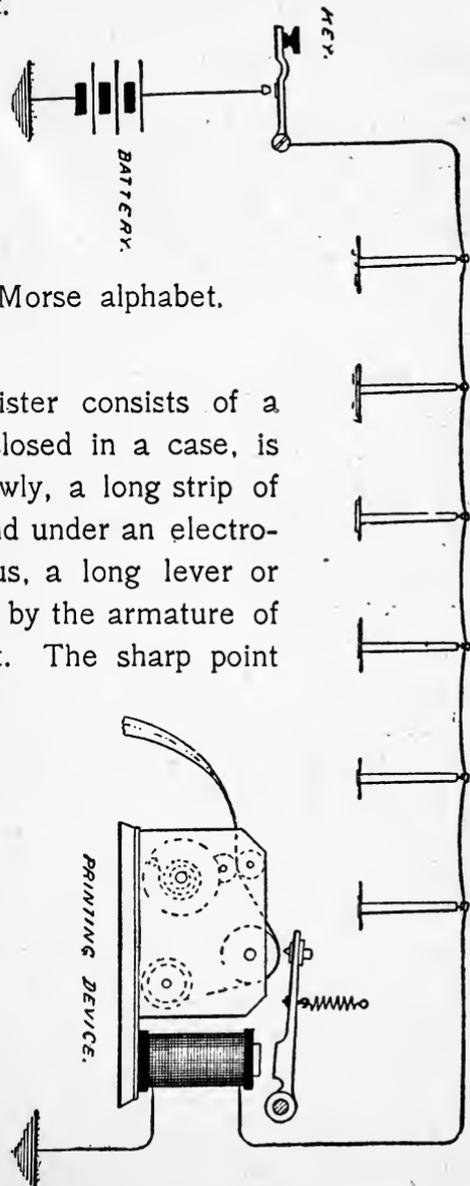

FIG. 109.
The recording register is shown in fig. 109 which represents a Morse transmitting station, receiving station and line.
**198.** The current used in the telegraphic transmission of messages — its average being about forty milliamperes — allows the use of the earth for one part of the circuit (see fig. 109). The other part of the circuit consists ordinarily of a galvanized iron wire supported on wooden poles and insulated from them by glass or porcelain insulators. Wires for telegraph lines are usually No. 8 to No. 6 B. W. G., but the size of the wire is often increased according to the length and the importance of the lines in order to prevent frequent faults in them caused by snow, wind, etc.